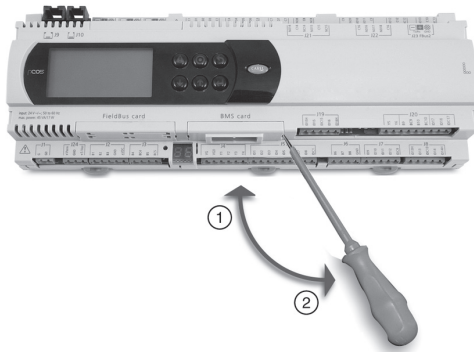

Fig. 1
1. Con un cacciavite, togliere lo sportellino "serial card" del controllore elettronico (vedi Fig. 1);
With reference to Figs. 1÷5, the connection to the pCO is performed (without power supply) by following the procedure below:
1. Using a screwdriver, remove the "serial card" hatch from the electronic controller (see Fig. 1);